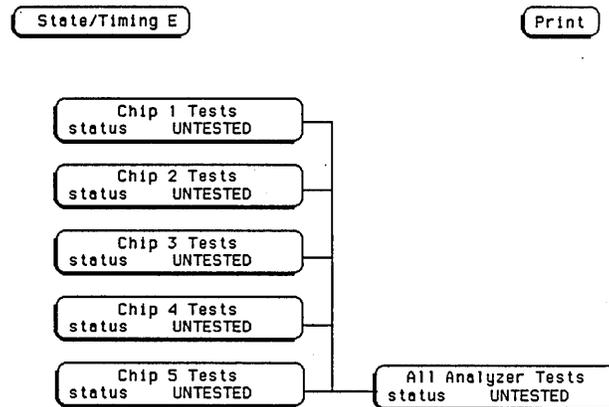

Figure 6-5. Main Test Menu
- e. Figure 6-5 is the main self test menu. Self tests can be run individually by touching a specific test field, or all tests automatically one time by touching "All Analyzer Tests". When "All Analyzer Tests" is run, the test status will change to "TESTED". When individual tests are run, the status will change to either "PASSED or FAILED".